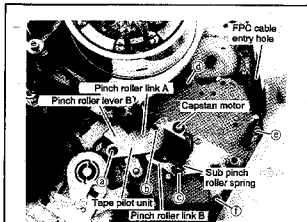
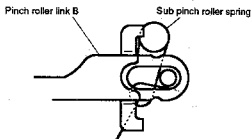

Fig. 3-14-1
Fig. 3-14-2
- ① Pass the FPC cable of the capstan motor through the FPC entry hole in the main plate (Fig. 3-14-1) and under the pinch roller lever B; and then mount the capstan motor on the main plate.
- ② Secure the capstan motor with screws ④, ⑤ and ⑦.
- ③ Attach the sync belt.
- ④ While slightly lifting up the pinch roller lever B, insert the pin of the pinch roller link A into the hole of the pinch roller lever B. Mount the pinch roller links A and B.
- ⑤ Referring to Fig. 3-14-2, attach the sub pinch roller spring to the pinch roller link B. Secure the link B with the washer ④ shown in Fig. 3-14-1.
- ⑥ Secure the tape pilot unit with screws ② and ③. Tighten screw ② first.
- ⑦ Attach the takeup guide arm.
- ⑧ Attach the lock arm spring and lock lever T-B.
- ⑨ Attach all the components described in para. 4-11 (Slant T replacement).
- ⑩ Attach all the components described in para. 4-10-1 (Pinch roller assembly replacement).
- ⑪ Mount the A/C head assembly.
- ⑫ Attach all the components described in para. 4-6 (Reel gear replacement).
- ⑬ Mount the cassette housing.